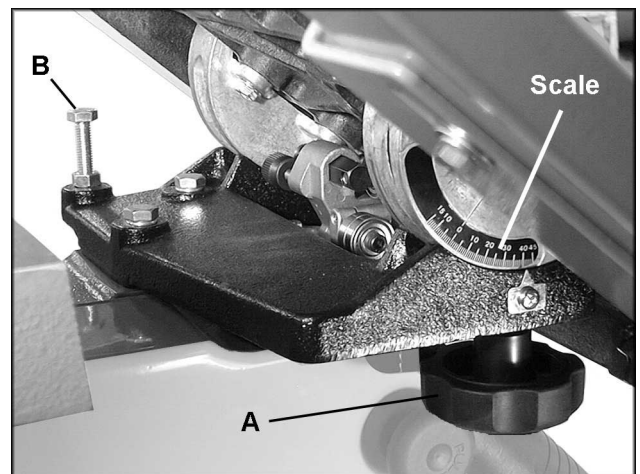

Fig. 21
1. Loosen the two lock knobs (A, Fig. 21).
3. Tighten the two lock knobs (A, Fig. 21).
2. Loosen lock knobs (A, Fig. 21) and tilt table to the left until it rests against the table stop (B, Fig. 21).
4. If an adjustment is necessary, tilt the table out of the way and tighten the lock knobs (A, Fig. 21).